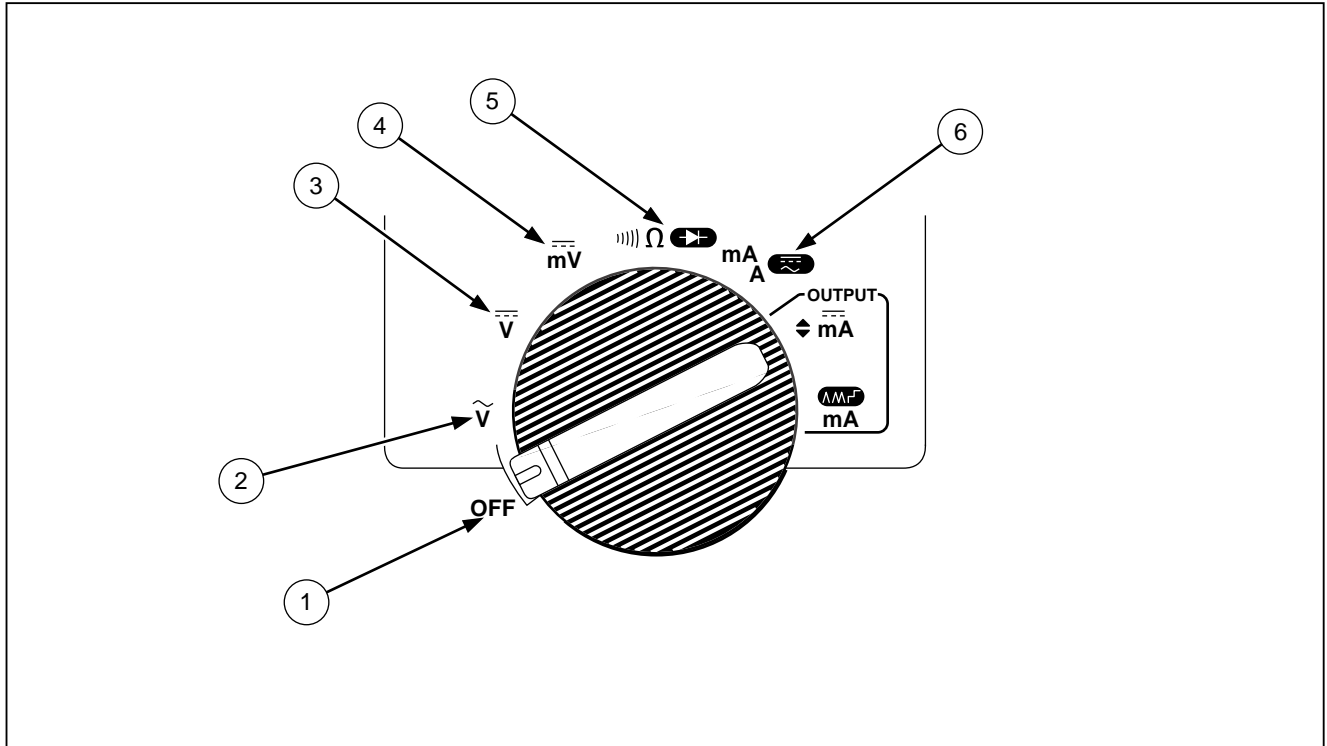

**Figure 1. Input/Output Jacks**
- Figure 1 and Table 2 describe the input/output jacks.